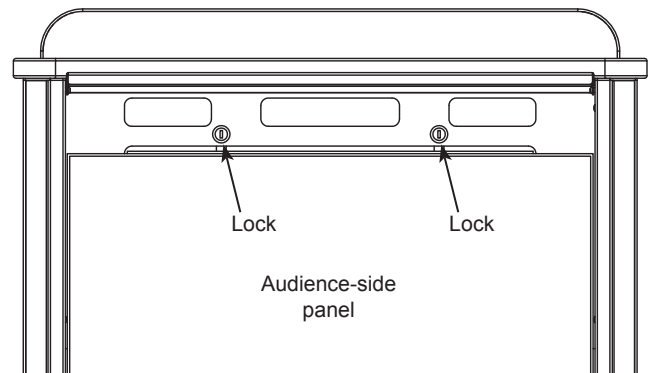

Figure 2.2
2. Unlock both locks while supporting the audience-side panel. **Figure 2.2.**